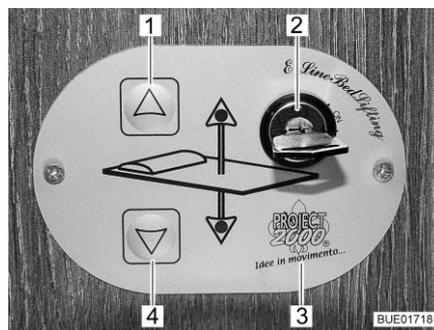
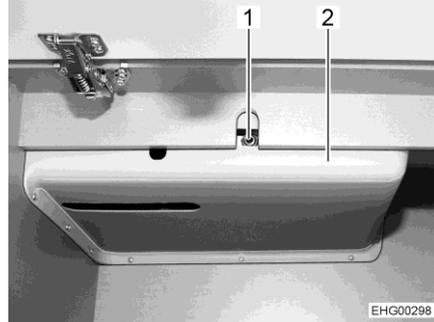

Fig. 153 Control unit
Fig. 157 Access to drive
Control unit The pull-down bed is raised or lowered using the buttons (Fig. 153,1 and 4) on the control unit (Fig. 153,3). The control unit is protected against unauthorized use with the key switch (Fig. 153,2).
- Turn the key in the key switch (Fig. 153,2) through 90° clockwise. The control unit (Fig. 153,3) is activated.
- Press the arrow key (Fig. 153,4) and keep it pressed until the pull-down bed has moved down into the desired position.
- Press the arrow key (Fig. 153,1) and keep it pressed until the pull-down bed has moved down into the final upper position.
If it is no longer possible to move the pull-down bed with the arrow keys (Fig. 153,1 and 4), first of all check the fuse behind the panelling (Fig. 157,2) (see section 9.10.1). If the fuse is okay and it is still not possible to move the pull-down bed, operate the pull-down bed manually.
- Insert the crank provided or an Allen wrench into the accommodation on the motor (Fig. 157,1).